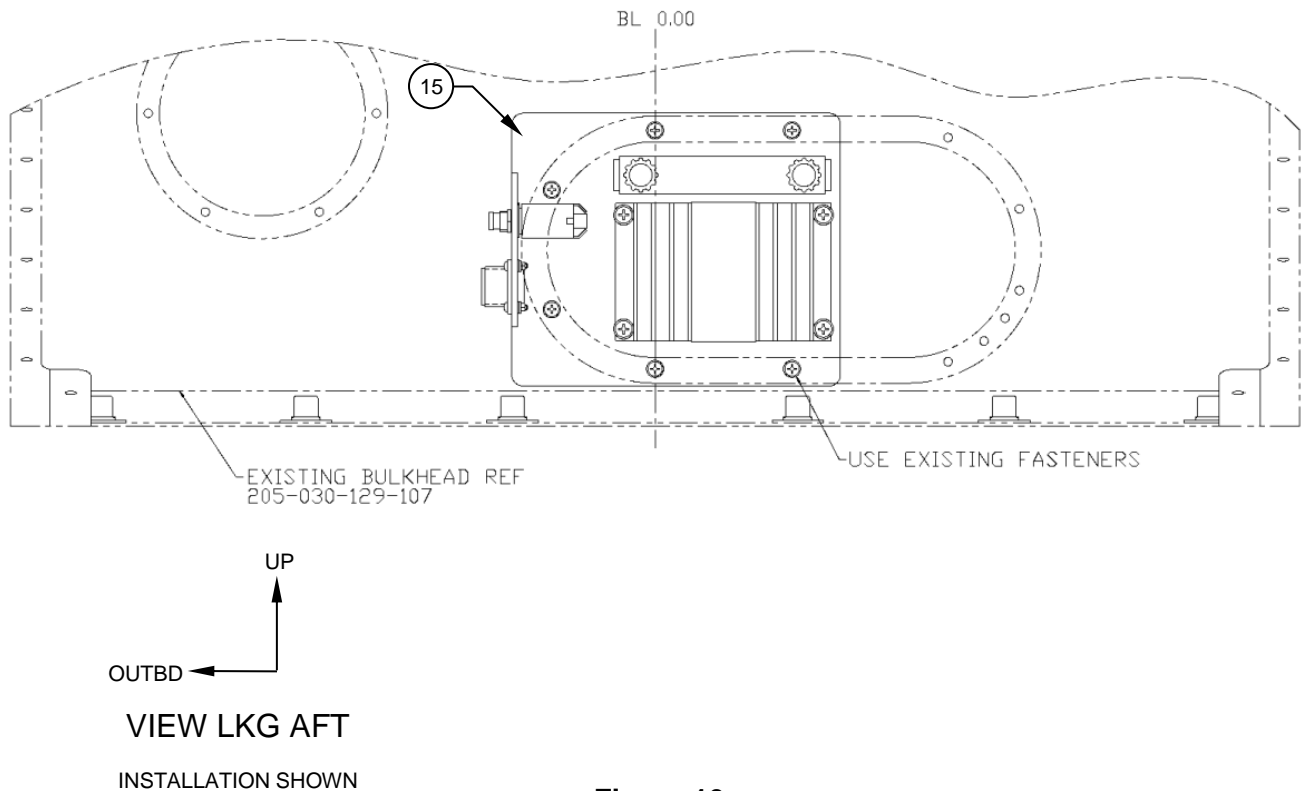

Figure 10
21. Mount the Control Unit, Assy (Item 15) over the urethane covered inspection hole in the bulkhead P/N 205-030-129-107 using the existing fasteners. Reference Figure 10.